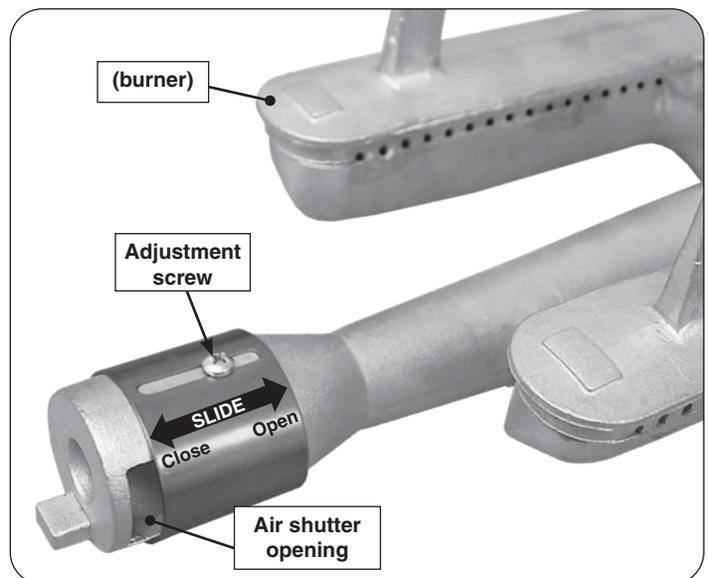

Fig. 45-2 Main burner air shutter adjustment detail
1. To adjust the air shutter, loosen the adjustment screw with a Phillips screwdriver. Then slide the shutter to open or close it. See Fig. 45-2 for details.